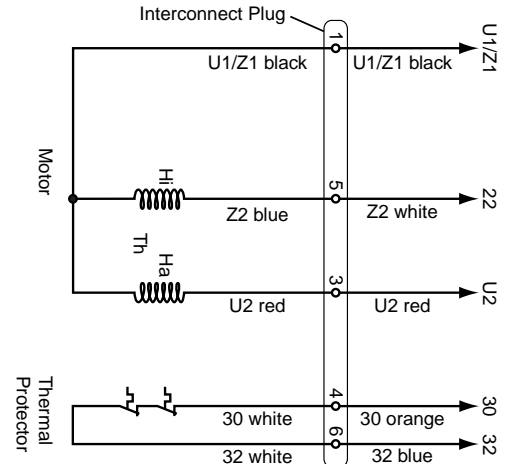

Figure 3: Single phase wiring diagram
5. Connect the pump to its own dedicated circuit with no other load on the circuit. Figures 3, 4 & 5 show single and three phase wiring schemes.